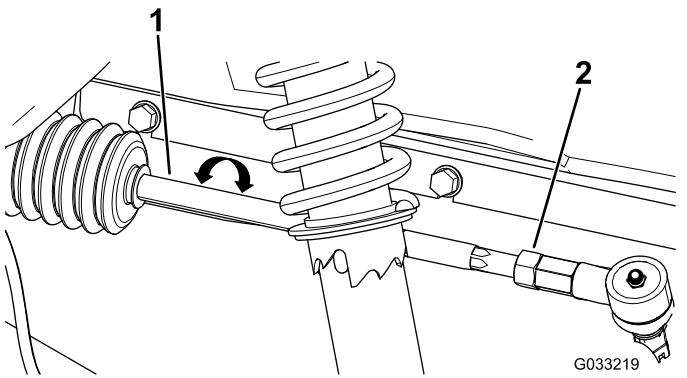

Figure 55
2. If the measurement does not fall within 0 to 6 mm (0 to 1/4 inch), loosen the jam nuts at the outer end of the tie rods (Figure 55).